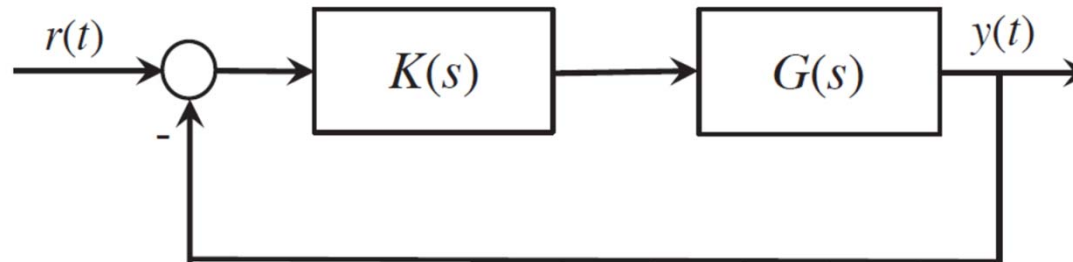

Figure 2: Closed loop system
5. The magnitude response of the closed-loop system in Figure 2 is shown in Figure 5. Given that